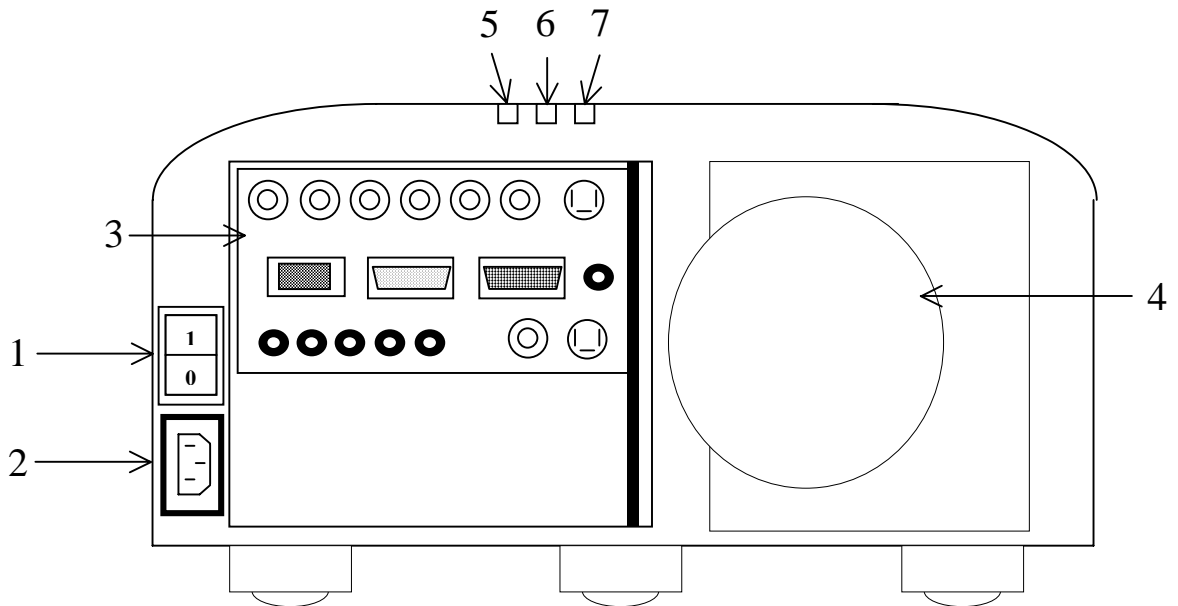

Figure 88: Projector BARCO IQ R500 – front view
- A2 (Indicators) aid is provided by the LEDs located on the front panel of projector (Figure 88), and by some alarm messages which may be displayed on the screen by the projector:
- The role of the different LEDs of the projector is detailed in the figures descriptions (Figure 88).
- To switch on the projector BARCO IQ R500, press the On/Off switch located on the front panel of the unit to position 1 (See Figure 88).
- To switch off the projector BARCO IQ R500, switch to standby mode, then press the On/Off switch located on the front panel of the unit to Position 0 (See Figure 88).